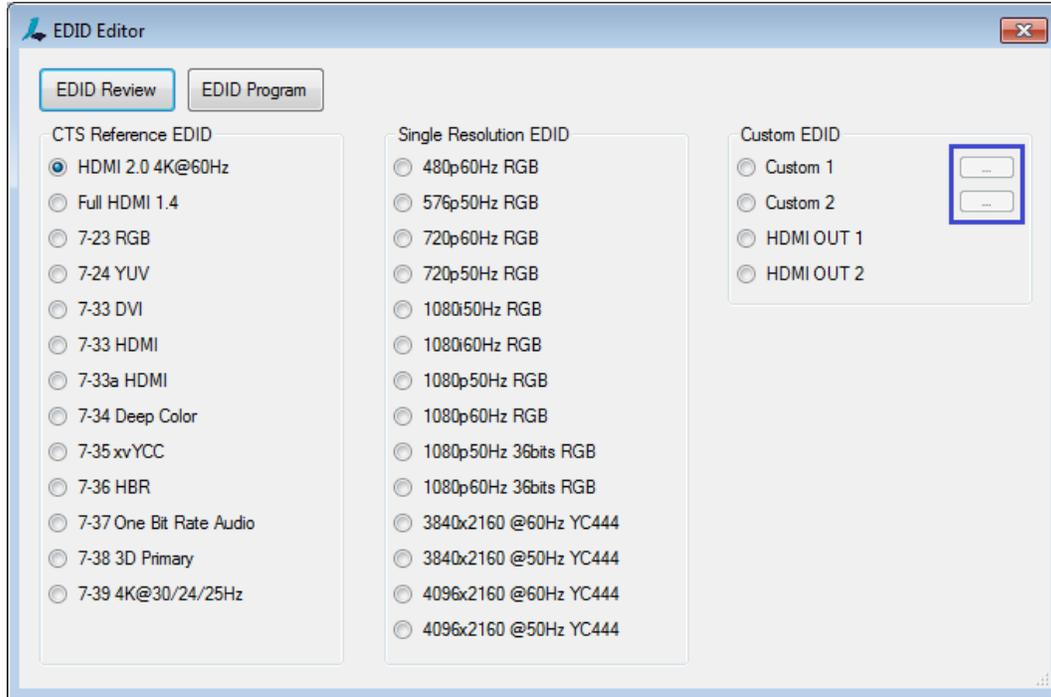
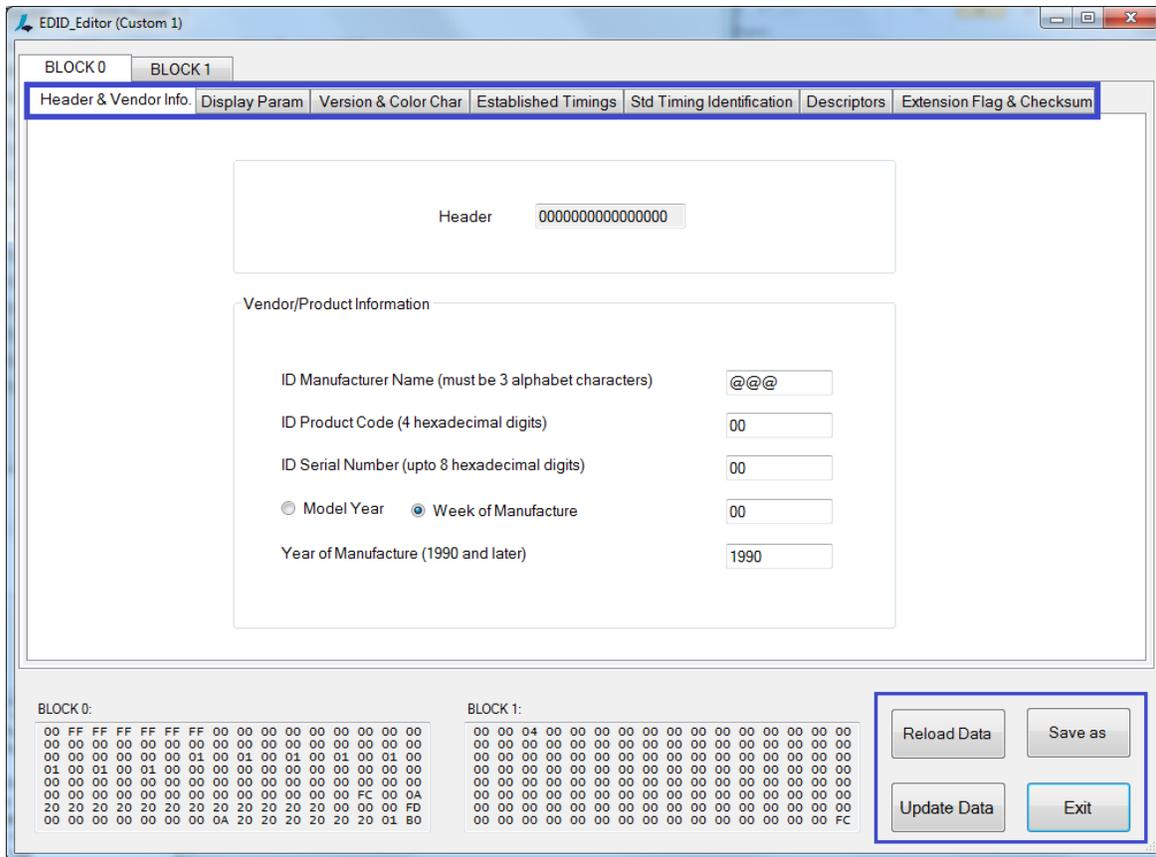
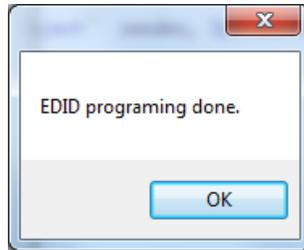

Figure 4.23. EDID Editor Test Window
Figure 4.24. EDID Review/Edit Window
Figure 4.25. EDID Program Done Dialog
2. From the EDID Editor window, select the EDID which you want to review, edit or program to the SL-881 (Figure 4.23).
To review selected EDID data, click the EDID Review button (Figure 4.23). EDID Review/Edit window appears (Figure 4.24). Contents of the EDID file are displayed.
- A. Choose Custom 1 from the Custom EDID area (Figure 4.23). If you need to load second EDID data, choose Custom 2. Custom 1 and Custom 2 can be chosen randomly.
- B. Click “...” (the blue box in Figure 4.23) to load customer’s EDID data, in either binary (\*.bin) or text (\*.txt) format. When customer’s EDID data is selected to load, the EDID Review button changes to the EDID Edit button in the EDID Editor Test window.
- C. Click the EDID Edit button. EDID contents are displayed in detail in the EDID Review/Edit window (Figure 4.24).
- A. Select the tab, contents of which you want to modify (Figure 4.24).
To program selected EDID data into EDID contents of the SL-881 HDMI IN port, click the EDID Program button (Figure 4.23). Once the programming completes successfully, a dialog pops up (Figure 4.25). Click OK.